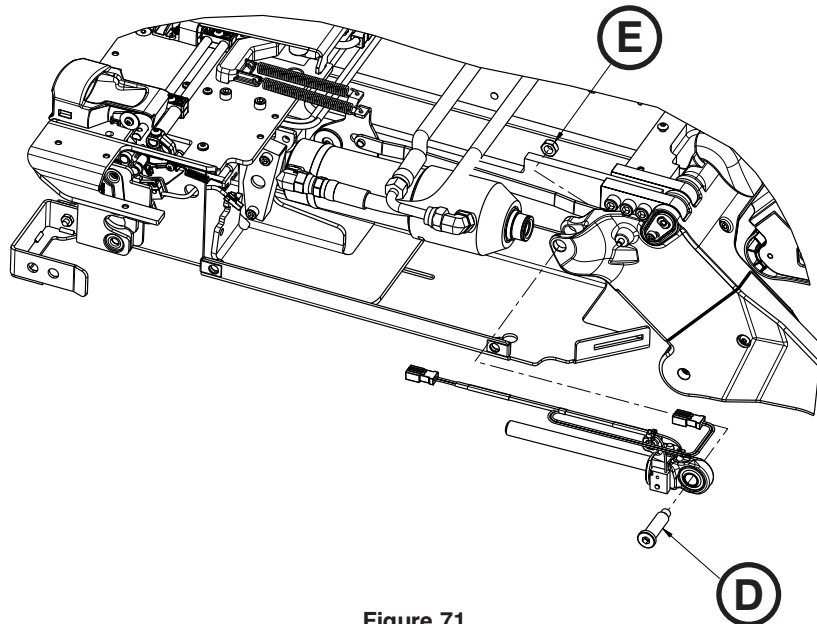

Figure 71
8. Using a 1/4" hex wrench and a 1/2" combination wrench, remove the end cap cylinder pin (D) and nut (E) (Figure 71).